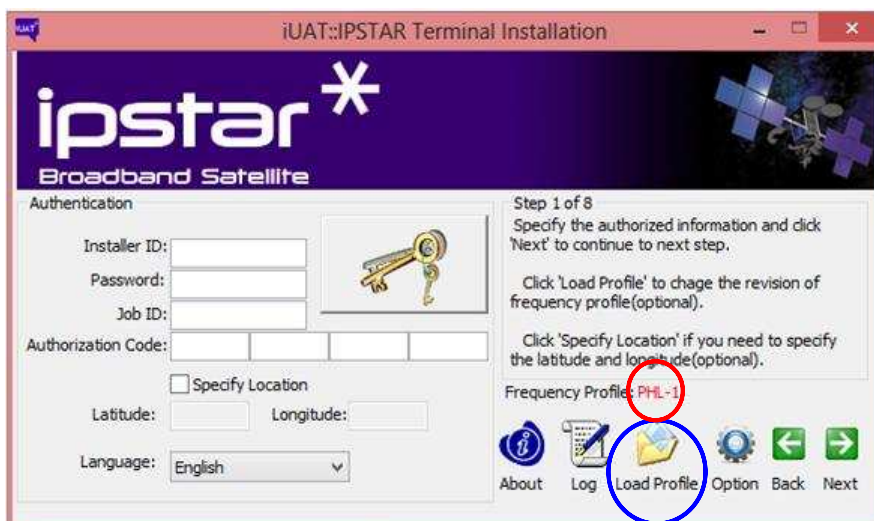

Figure 11: Authentication page
- You will see the Authentication page as it appears in Figure 11. The current Frequency Profile selected is highlighted in red color. Click on "Load Profile" icon on the dialog to change a new frequency profile.